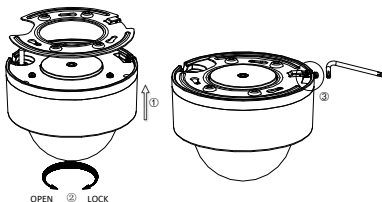

Figure 2-32 Fix the Camera
6. Fix the screws on the side with a screwdriver, as shown in Figure 2-32.